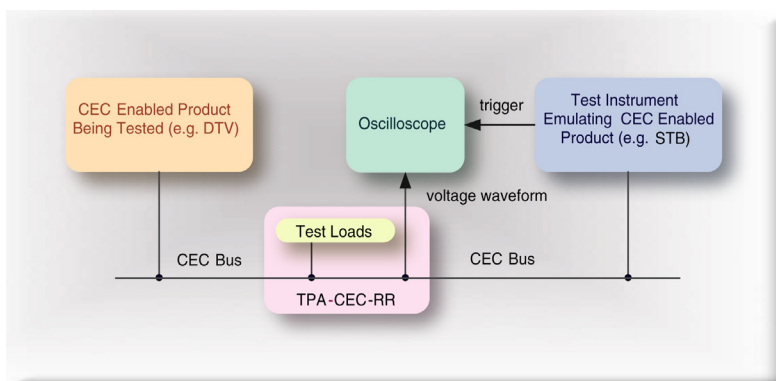

Figure 5 – Dynamic PHY Electrical Test Point Adapter
Quiescent electrical performance is normally measured with a multimeter, while dynamic electrical performance is measured with an oscilloscope. Test Point Adapters (TPAs) are needed to connect these general-purpose instruments to the HDMI port of the device being tested. TPAs also attach precision loads, bias voltages, and specialized test equipment when needed. Dynamic electrical tests require a specialized product-emulating test instrument to coax messages from the device under test (see Figs. 5 & 6).
5. Test Point Adapters (TPAs) are test fixtures used during compliance testing or development. They allow test instruments to be attached to the unit under test and apply calibrated loads as set forth in the HDMI-CEC specification. Figure 5 (above) shows a block diagram of a TPA.